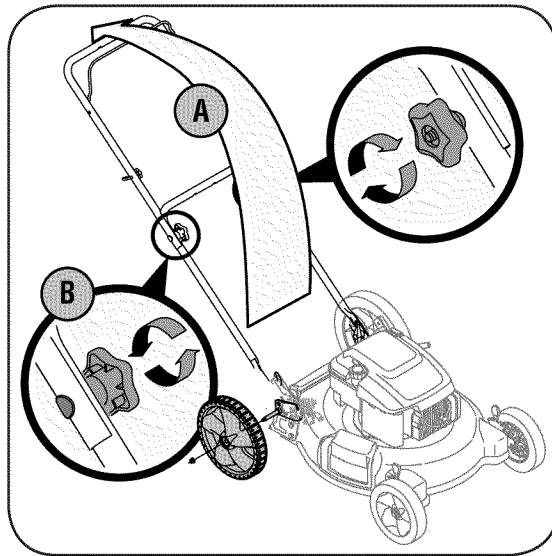

Figure 3-1: Unfold handle, tighten hardware and attach wheel.
- a. Pull up and back on upper handle as shown in Figure 3-1. Make certain the lower handle is seated securely into the handle mounting brackets. Do not crimp cable while lifting the handle up.